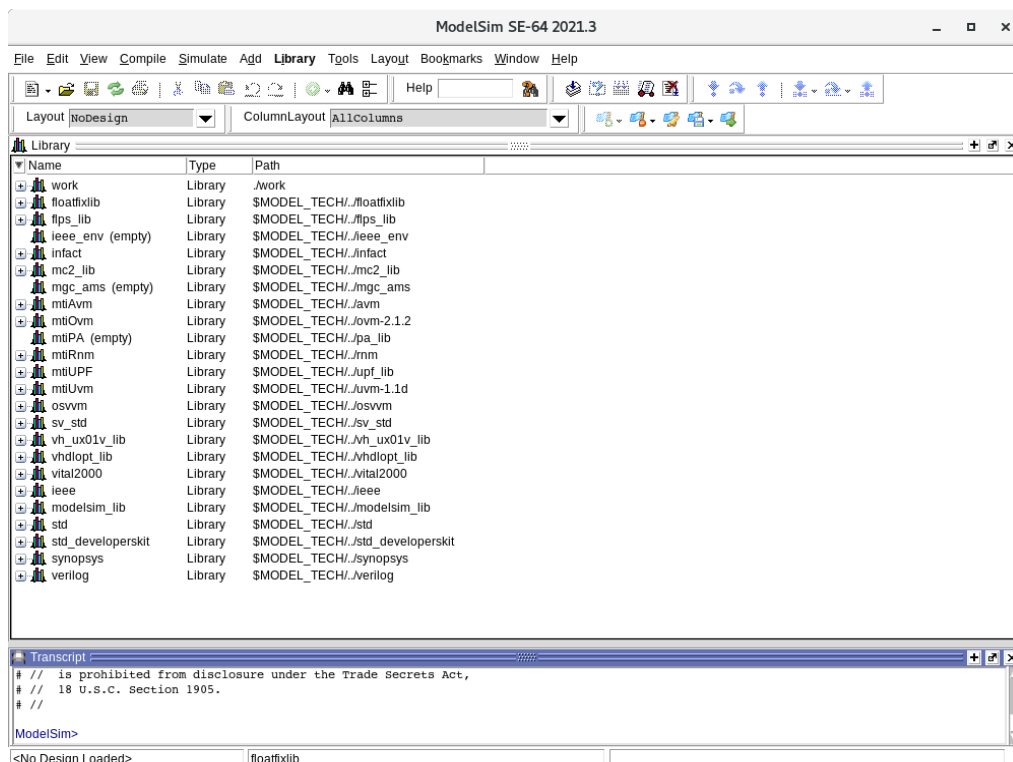

Figure 6 Modelsim simulator startup window
13. Look at the simulator start window in Figure 6.